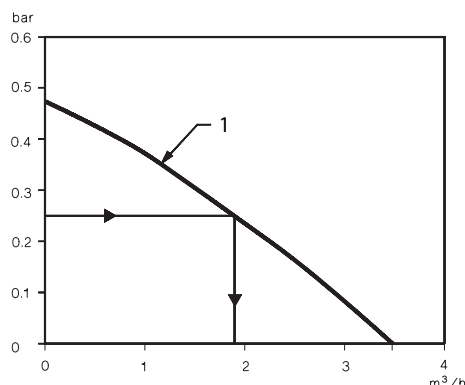

Fig. 4
- The max. permissible differential pressure 0.25 bar across system corresponds to a 1.8 m³/h water volume (fig. 4). At min. load AVDO must ensure 1.8 m³/h pump bypass circulation. In this example AVDO 20 must be used - see "Capacity".- As circulation is not to begin before differential pressure across system has exceeded 0.1 bar, AVDO is set on 0.1 bar - see "Setting".